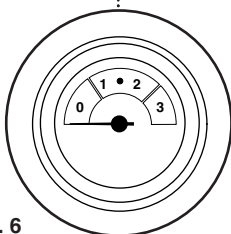

Fig. 6
5. If the pressure falls below 1, this may indicate a leak on the central heating system (Fig. 6).